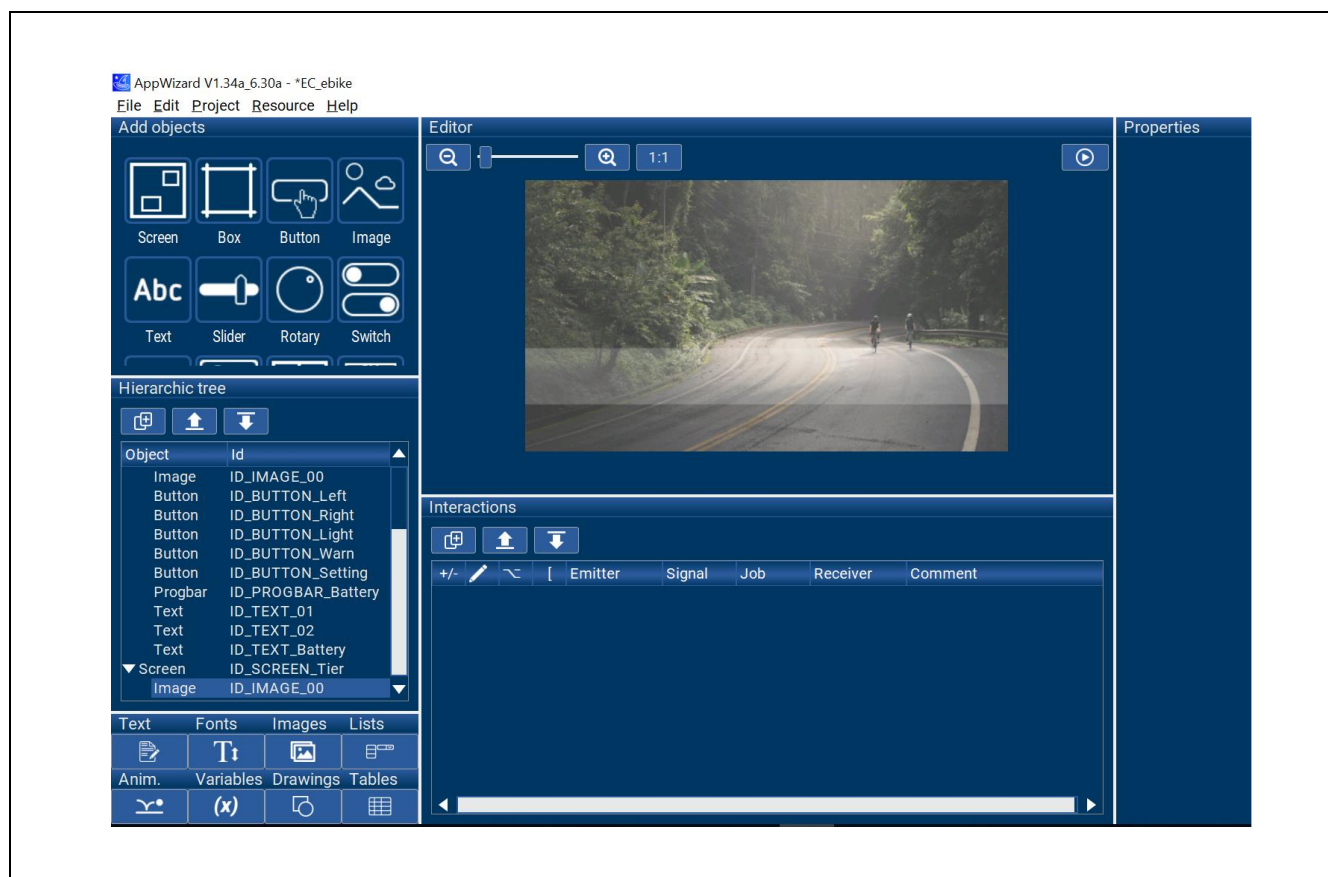

Figure 1-44 Using Image Object to Import Background Image
24. Follow step 12 to 13 to select the background image. After completing the steps, the result should be shown as Figure 1-44.